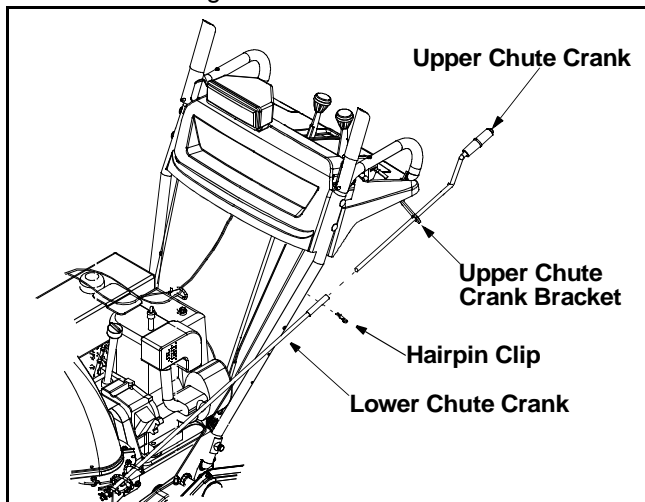

Figure 4
- Remove the hairpin clip from the upper chute crank and slide the upper chute crank through the upper chute crank bracket and into the lower chute crank. Align the two holes on both chute cranks and insert the hairpin clip removed earlier, through these holes. See Figure 4.